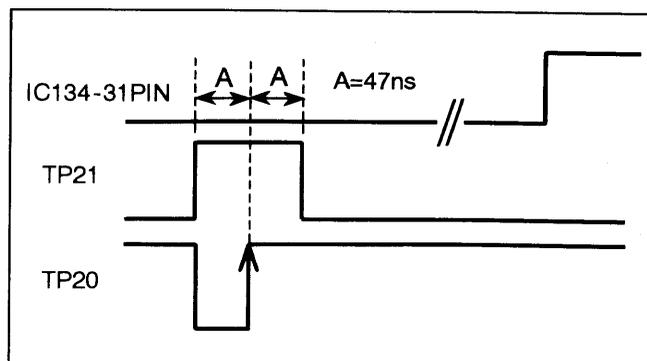

Figure 4
4. During low period of pin 31 of IC134, adjust VR17 so that the rising edge of TP20 becomes center of high period of TP21 as shown in Figure 4.